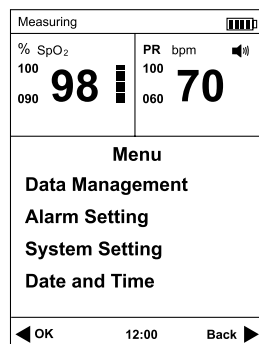

Fig.4-2
1) Press the power switch for 3 seconds to power on the oximeter and then press the menu button to enter the main menu, refer to the Fig.4-2.